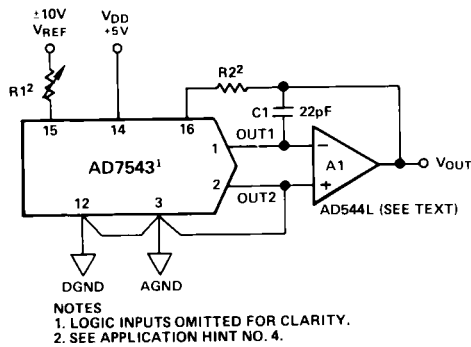
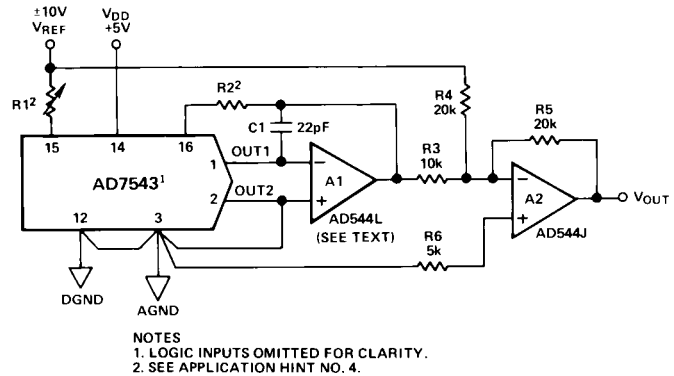

Figure 6. Unipolar Binary Operation (2-Quadrant Multiplication)
Figure 7. Bipolar Operation (4-Quadrant Multiplication)
Input Coding	12-Bit Unipolar Binary or 12-Bit Offset Binary (see Figures 6 and 7), serial load (MSB First)
Gain is defined as the ratio of the DAC's Full Scale output to its reference input voltage. An *ideal* AD7543 would exhibit a gain of  $-4095/4096$ . Gain error is adjustable using external trims as shown in Figures 6 and 7.
Register B can be asynchronously reset to 0000 0000 0000 by bringing  $\overline{\text{CLR}}$  momentarily LOW. This allows the DAC output voltage to be set to a known condition, thus simplifying system initialization procedure. When operating the AD7543 in the unipolar circuit of Figure 6, a CLEAR causes the DAC output voltage to equal 0V. When using the bipolar circuit of Figure 7, a CLEAR causes the DAC output to equal  $-V_{\text{REF}}$ .
Figure 6 shows the analog circuit connections required for unipolar binary (2-quadrant multiplication) operation. The logic inputs are omitted for clarity. With a dc reference voltage or current (positive or negative polarity) applied at pin 15, the circuit is a unipolar D/A converter. With an ac reference voltage or current (again of + or - polarity) the circuit provides 2-quadrant multiplication (digitally controlled attenuation). The input/output relationship is shown in Table III.
Table III. Unipolar Binary Code Table for Circuit of Figure 6
Figure 7 and Table IV illustrate the circuitry and code relationship for bipolar operation. With a dc reference (positive or negative polarity) the circuit provides offset binary operation. With an ac reference, the eleven LSBs provide digitally controlled attenuation of the ac reference while the MSB provides polarity control.
Table IV. Bipolar Code Table for Offset Binary Circuit of Figure 7
4. **GAIN TEMPERATURE COEFFICIENTS:** The gain temperature coefficient of the AD7543 has a maximum value of  $5\text{ppm}/^\circ\text{C}$  and a typical value of  $2\text{ppm}/^\circ\text{C}$ . This corresponds to gain shifts of 2.0LSBs and 0.82LSBs respectively over a  $100^\circ\text{C}$  temperature range. When trim resistors are used to adjust full-scale range as shown in Figures 6 and 7 the temperature coefficient of R1 and R2 should be taken into account. It may be shown that the additional gain temperature coefficients introduced by R1 and R2 may be approximately expressed as follows:—